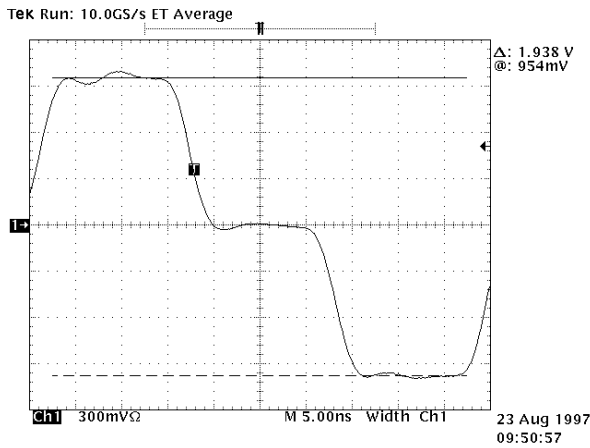

Figure 13-3. 16 ns Pulse Peaks Used to Calculate 50% Levels
5. Calculate the 50% values. See Figure 13-3.